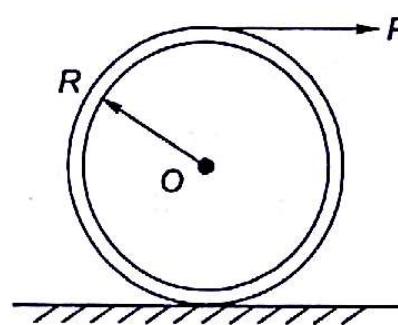

Fig. 17.19
17.6 A thin hoop of mass m rolls horizontally under action of a horizontal force P applied at top as shown in Fig. 17.19. What is \bar{a} , acceleration of centre of hoop?